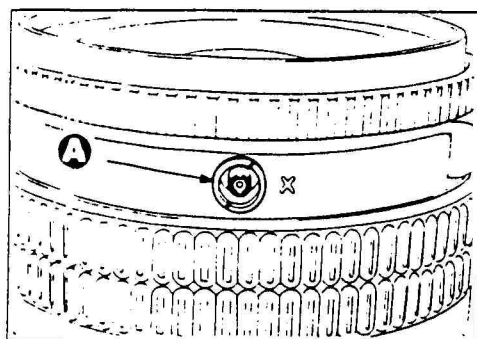

Fig. 1
Note : 1) Before removing the synchro socket (A), be sure to remove first the cord (blue/black) (B). After that remove the synchro terminal (A). (See Figs. 1 and 2.)